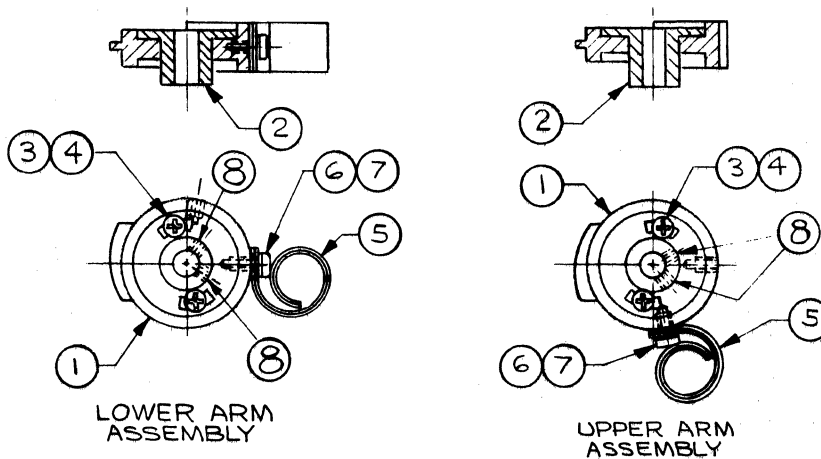

Figure 7-9. Tape Tension Arm Vane
- Step 3. Note the white dot on the back of terminal board (2) and its position with respect to photo cell housing (1).
- Step 4. Remove the two phillips head mounting screws (3) and lift the board from the housing.
10. TAPE TENSION ARM VANE REPLACEMENT - Refer to Figure 7-9